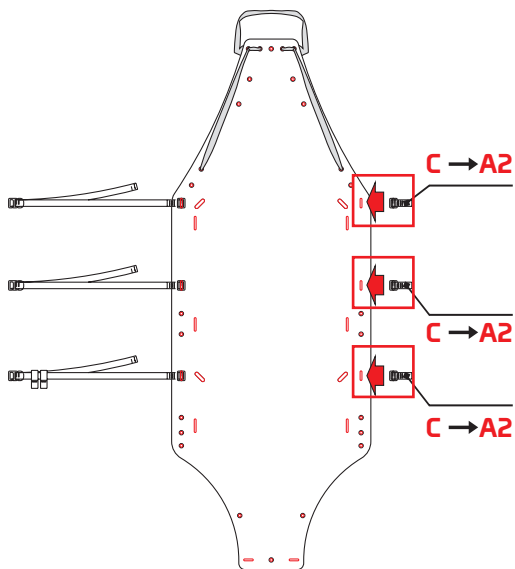

Fig.12
- Insert the slings with eyelets (C) in the A2 eyelets in the support surface (fig. 12).